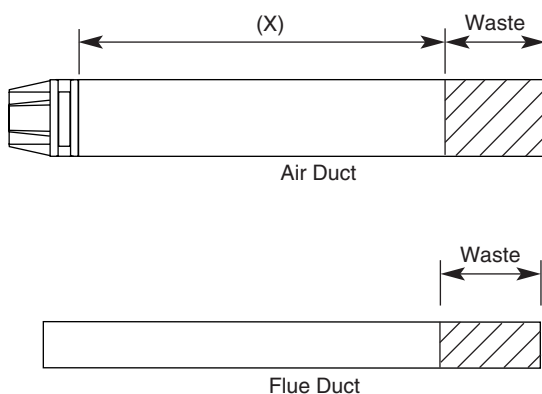

Fig. 28
4. Taking the air duct, mark dimension 'X' as shown (Fig. 28). Measure the length of waste material, and transfer the dimension to the flue duct (Fig. 28).